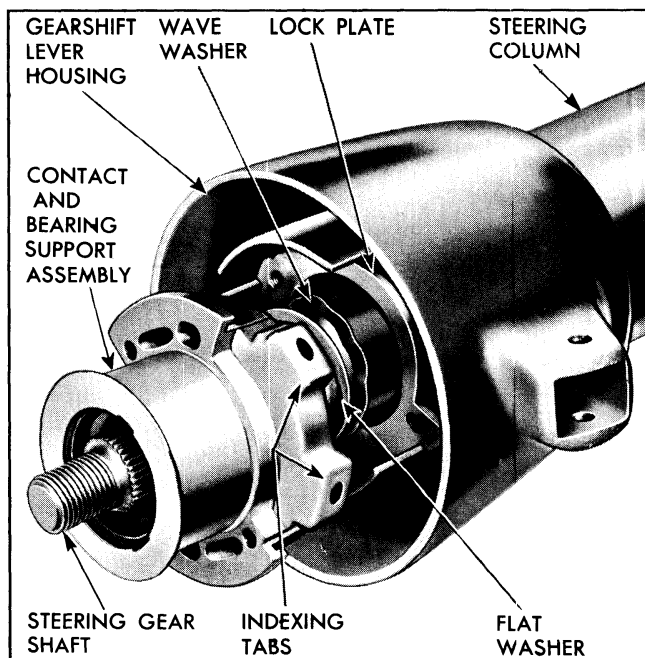

Fig. 9-17 Removing Upper Bearing Assembly
12. Remove upper bearing support assembly from top end of shifter tube (Fig. 9-17).